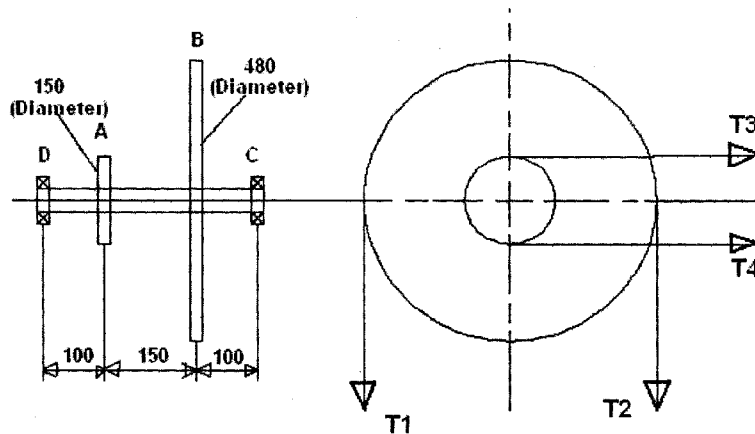

Figure 1
- Q.5** Figure 1 shows the lay shaft driven by pulley 'B' from an electric motor. **15**